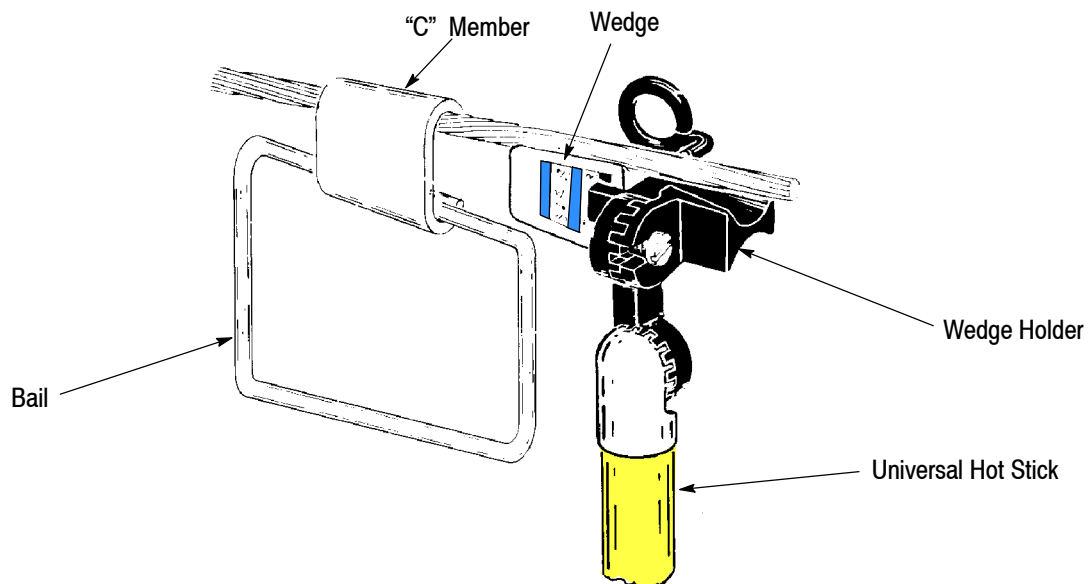

Figure 28
4. Insert wedge into "C" member. See Figure 28.